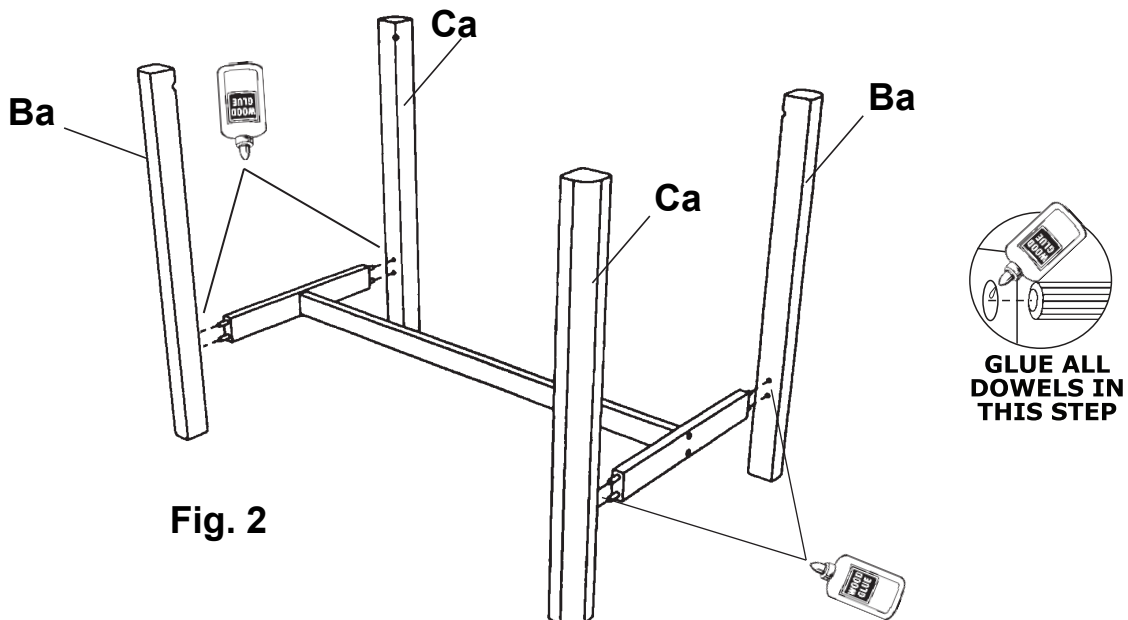

Fig. 2
2. Spread glue in the two lower holes of the Left and Right Legs (Ba & Ca). Attach legs to the Side Stretchers. See Figure 2.